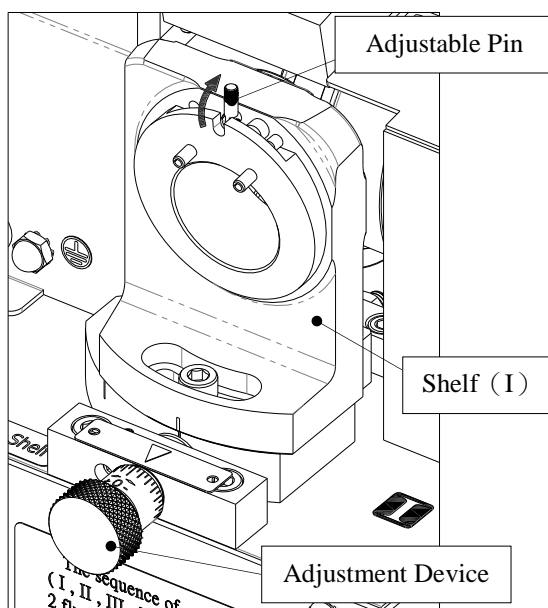
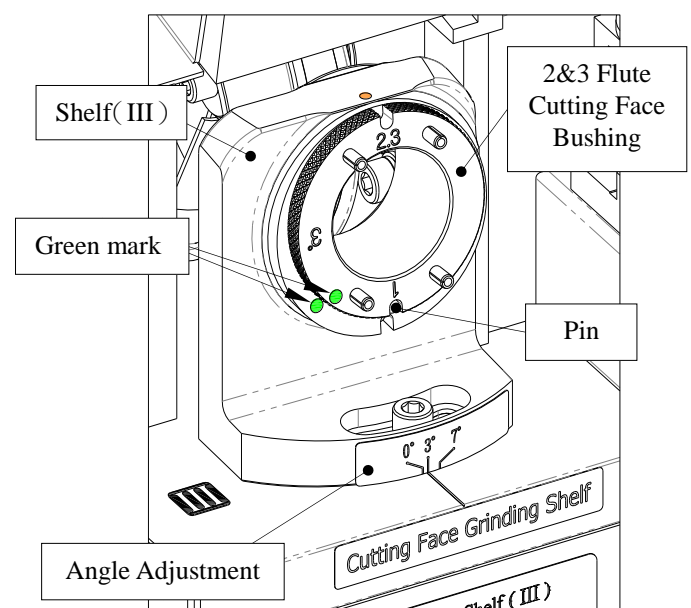

Fig. 14-1
Fig. 14-2
1. Shelf (I) (Fig. 14-1)
- ① Trigger up the adjustable pin on Shelf (I) from the bottom to top.
- ② Adjust the Cutting face adjustment device to “0”, after finishing the whole sharpening procedure, then adjust this device according to your needs. (See page 11 “XIII. End Mill – The use of the Cutting Face Adjustment Device”)
2. Shelf (III) (Fig. 14-2)
- ① Adjust Shelf (III) to 3°.
- ② Insert 2&3 Flute Cutting Face Bushing to Shelf (III), align the Green mark ● of the Bushing with the Green mark ● on the shelf, then insert the bushing gently and align No.1 of the Bushing with the Pin on the shelf.